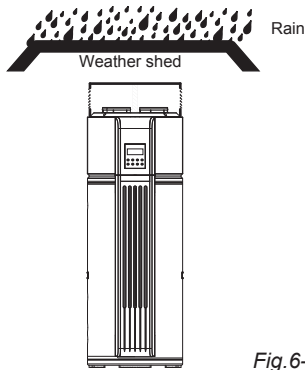
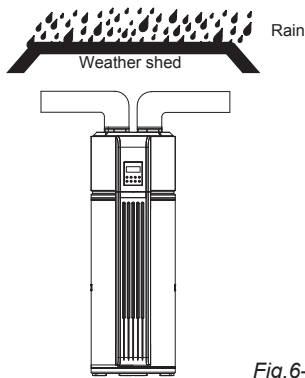

Fig.6-7
Fig.6-8
- In cases where the main unit is installed outdoors, a reliable water-resistant measure must be conducted to avoid water drop into the inlet and outlet of the main unit. (Fig.6-7 and Fig. 6-8)